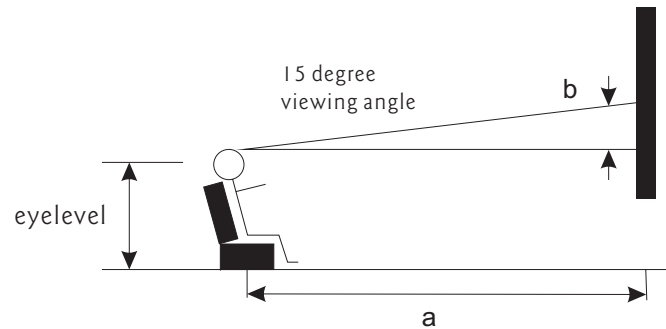

Fig 2a
- 1) the distance between wall and couch (Fig 2a).
- 2) the distance of eyelevel from ground level plus the distance measured from eyelevel of a person sitting on couch with viewing angle of 15° (Fig 2a).